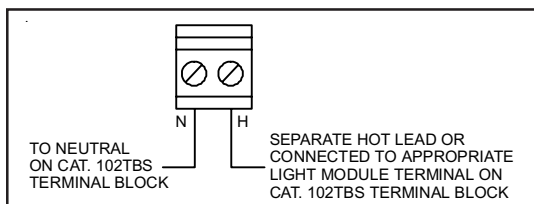

Figure 2. Wiring Cat. No. 102SIG*T
- c. If using the optional **Cat. No. 102SIGST** single tone module or **Cat. No. 102SIGMT** multi-tone module, connect additional field wiring to the terminal block mounted on the signal assembly as shown in Figure 2.